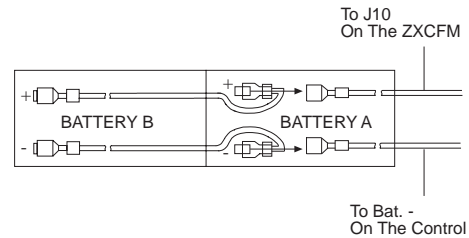
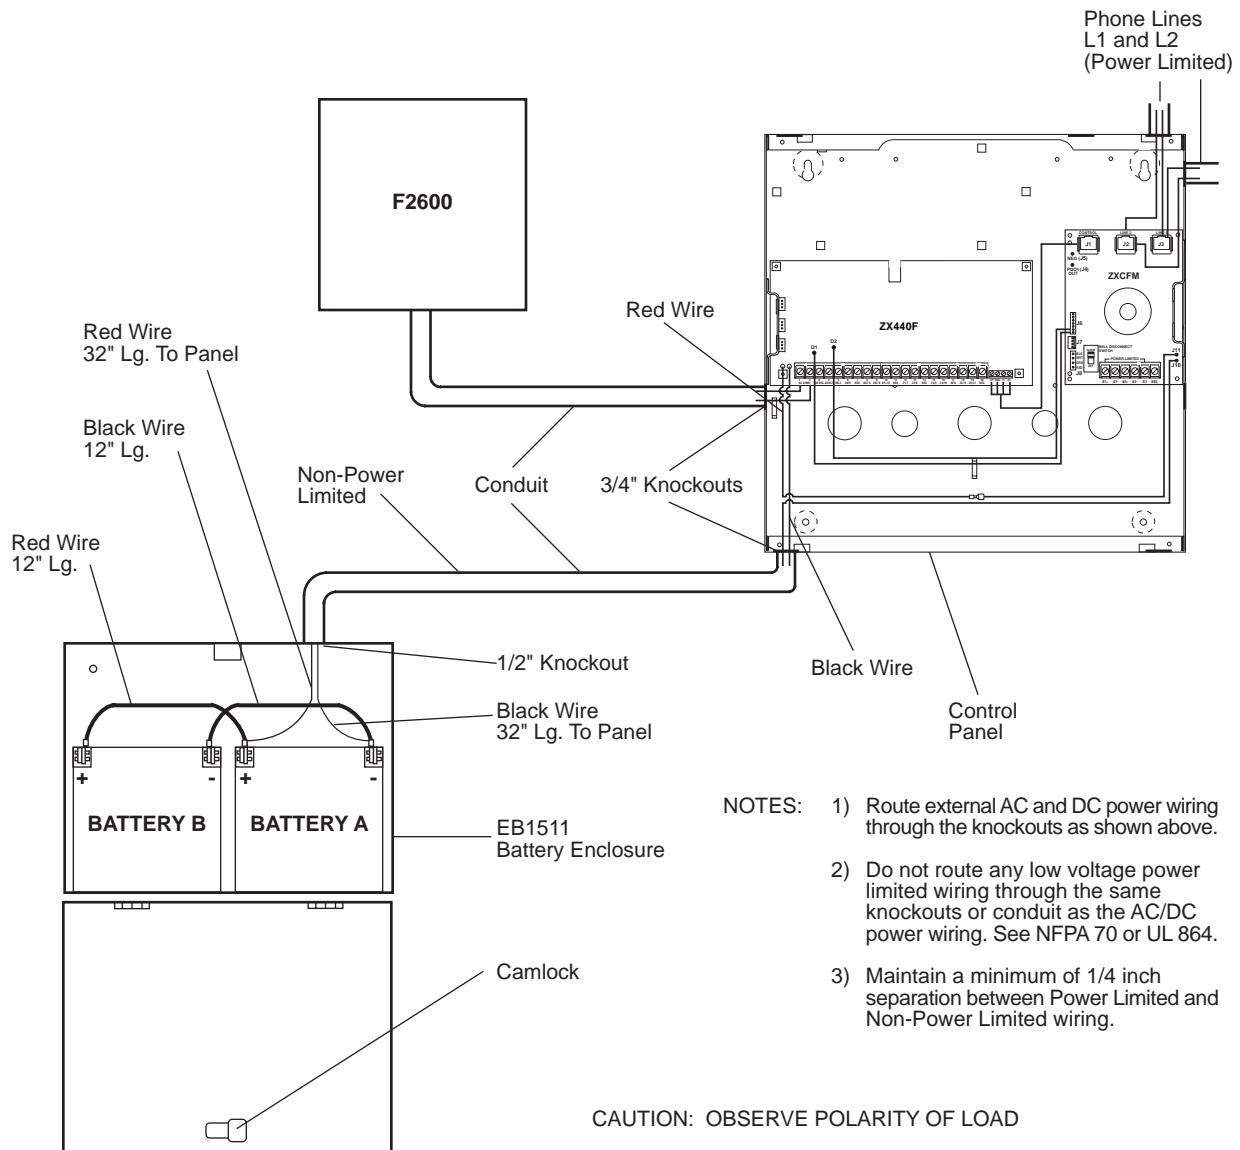

FIGURE 17 Connection of the Dual Battery Harness
FIGURE 20 Connection of the CR862 Dual Battery Harness and Power Conductor Routing
10. Connect two 7 Ah batteries with the dual battery harness provided. (See Figure 17). Connect the (-) battery terminal to (J2) on the control using the control battery lead. Connect the (+) battery terminal to (J10) on the ZXCFM using a ZXCFM battery lead. Connect (J1) on the control to (J11) on the ZXCFM using the control battery lead and the other ZXCFM battery lead.
In order to meet UL864 standby current requirements of 24 hours at 450 mA, a minimum of two 12 VDC, 7 Ah sealed lead acid batteries must be installed utilizing the dual battery harness as shown in Figure 17. However, a single 12 VDC, 17.2 Ah sealed lead acid battery may be used in place of the two 7 Ah batteries to obtain the same standby current using the CR862 Dual Battery Harness. See Figure 20 with Battery A only.
To increase standby current to 60 hours at 180 mA, two 12 VDC, 17.2 Ah sealed lead acid batteries may be installed in place of the two 12 VDC, 7 Ah batteries. The CR862 Dual Battery Harness must be used to connect the 17.2 Ah batteries to the control. The EB1511 Auxiliary Battery Enclosure is required to house the batteries. Additionally, all interconnections must be run in conduit. Install the batteries as shown in Figure 20.